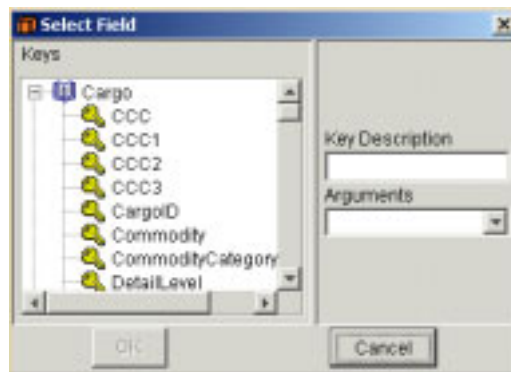

Figure 5.119 Select Field Window
- When the Comparison Type text box contains Field and the text box below is labeled Field, click the Set... button. The Select Field window opens (Figure 5.119). Continue with Step 16.